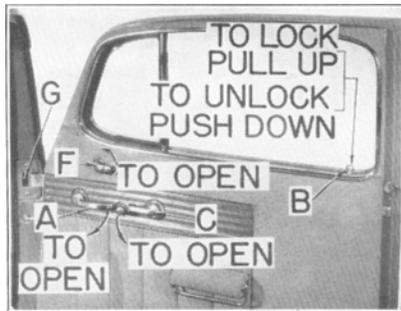

Figure 8
**DOOR LOCKS**—All doors can be locked from the inside by pulling up on the rubber knob (B) protruding from the door finish moulding, see Fig. 8. To unlock the door